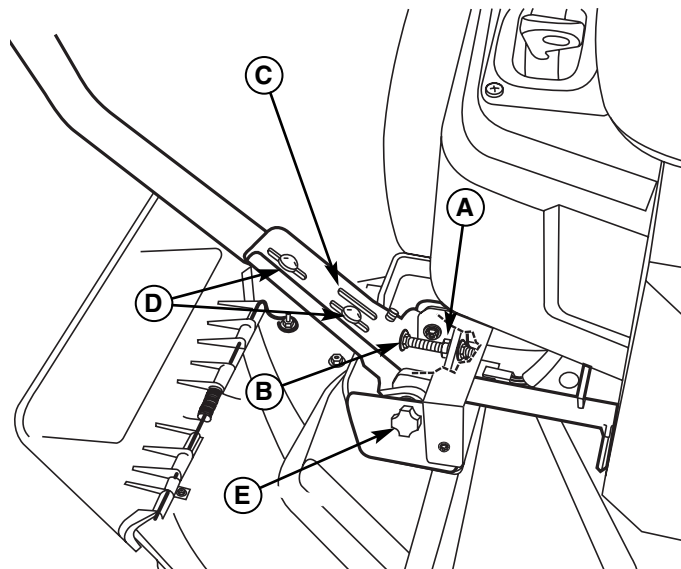
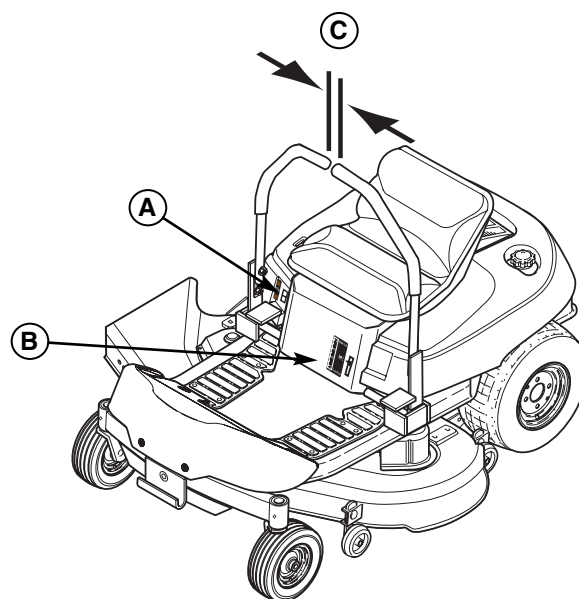

Figure 42. Control Lever Adjustment
Figure 43. Cutting Height Adjustment
**To Adjust Control Lever Height:** Pull the levers in across the operator's lap to their DRIVE positions. Loosen the mount bolts (D, Figure 42) and raise or lower the levers to the desired position. Tighten the mounting bolts.(D).
**To Adjust Control Lever End Gap:** The control lever end gap (C, Figure 43) should be adjusted so that the levers do not contact each other when placed in DRIVE positions. Loosen the jam nut (A, Figure 42) and adjust the length of the carriage bolt (B) so that the levers do not contact each other. Repeat on the opposite side. Tighten the jam nut (A) to lock the carriage bolt in position.
**To Adjust Operator Clearance:** The space between the operator and the control levers can be increase by removing the lower mounting bolt (D, Figure 42), pivoting the lever forward, and reinstalling the capscrew through the control lever and forward slot (C). Repeat with the other ground speed lever.
If the rider veers to the right or left when the ground speed control levers are in the maximum forward position, the top speed of the right lever can be balanced by turning the adjustment knob (E, Figure 42). Loosen the jam nut and turn the knob COUNTERCLOCKWISE to increase speed or CLOCKWISE to decrease speed. Tighten the jam nut when complete.
To increase the mower cutting height (raise the mower deck), press the top of the mower cutting height switch (A, Figure 43) To decrease mower cutting height (lower the mower deck), press the bottom of the switch. Mower cutting height range is 3-3/4" to 1-1/2". The cutting height gauge indicates the position of the mower deck.. The cutting height gauge (B) is located on the front of the rider, just behind the driver's left leg.